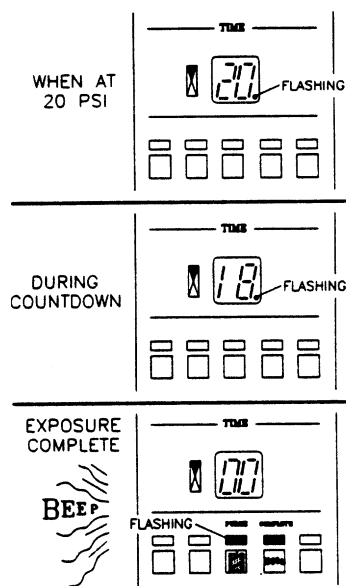

Figure 12: Automatic Timed Exposure Display
- When chamber pressure reaches 20 psi, the timer starts automatically (see Figure 12).